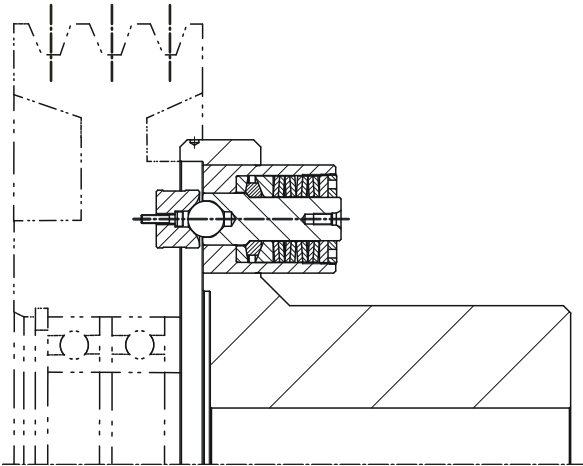

Fig. 5
Flange Design Type 400._04.0 (Fig. 5).
The flange design consists of Items 1 – 7, 28 and 29 (see Parts List and Fig. 1). The thrust pieces (4) are installed in the output element (Fig. 5) or a flange, and greased. For greasing, please use NLGI Class 1,5 grease with a basic oil viscosity of 460 mm²/s at 40 °C, e.g. Mobilith SHC460.